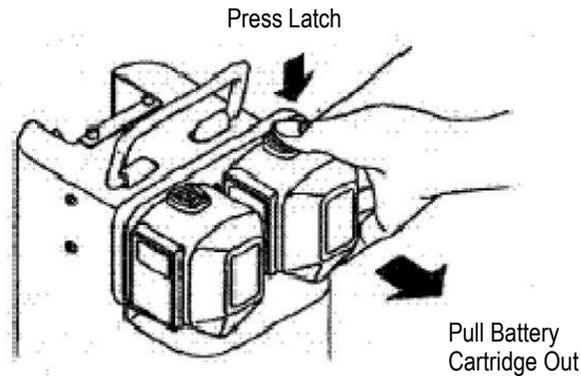

Figure 2
1. Pull out on the battery cartridges while pressing the latch (see Figure 2).